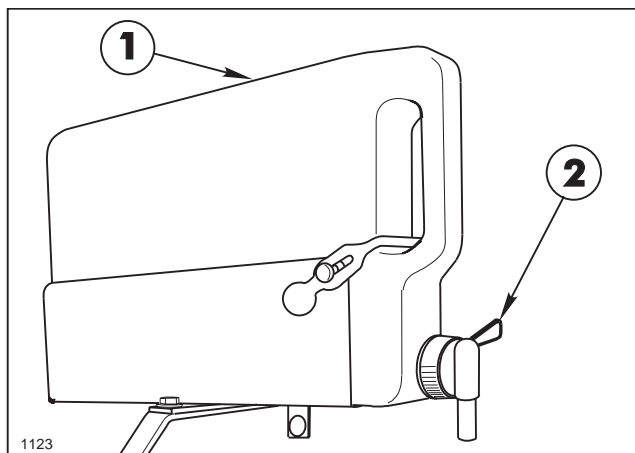

FIG. 7
In case of chemical contact with skin or eyes, a fresh water wash tank has been installed on the R.H. side of the vehicle. See FIG. 7.
1. Turn Tank Spigot to on position. See FIG. 7.